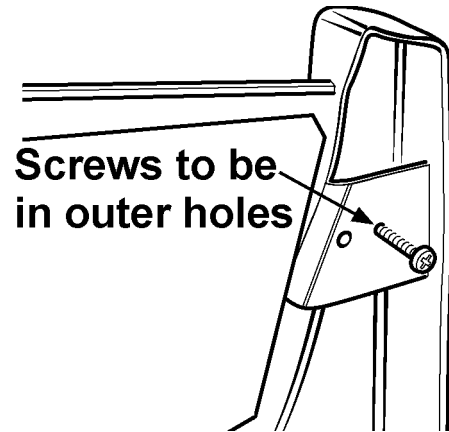

Figure 23. Firefront casting location
1. Check that the two screws in the back of the fire front casting are in the outer threaded holes. If they are in the inner holes, relocate them. See figure 23.